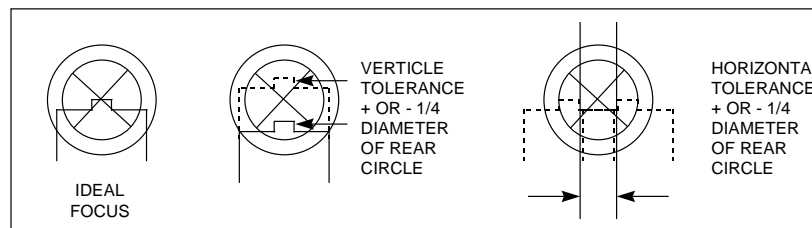

Figure 3-18
- k. Observe the focus fixture. Is it right or left or low? If so, turn only the third focus knob until the focus fixture is centered. See Figure 3-18.